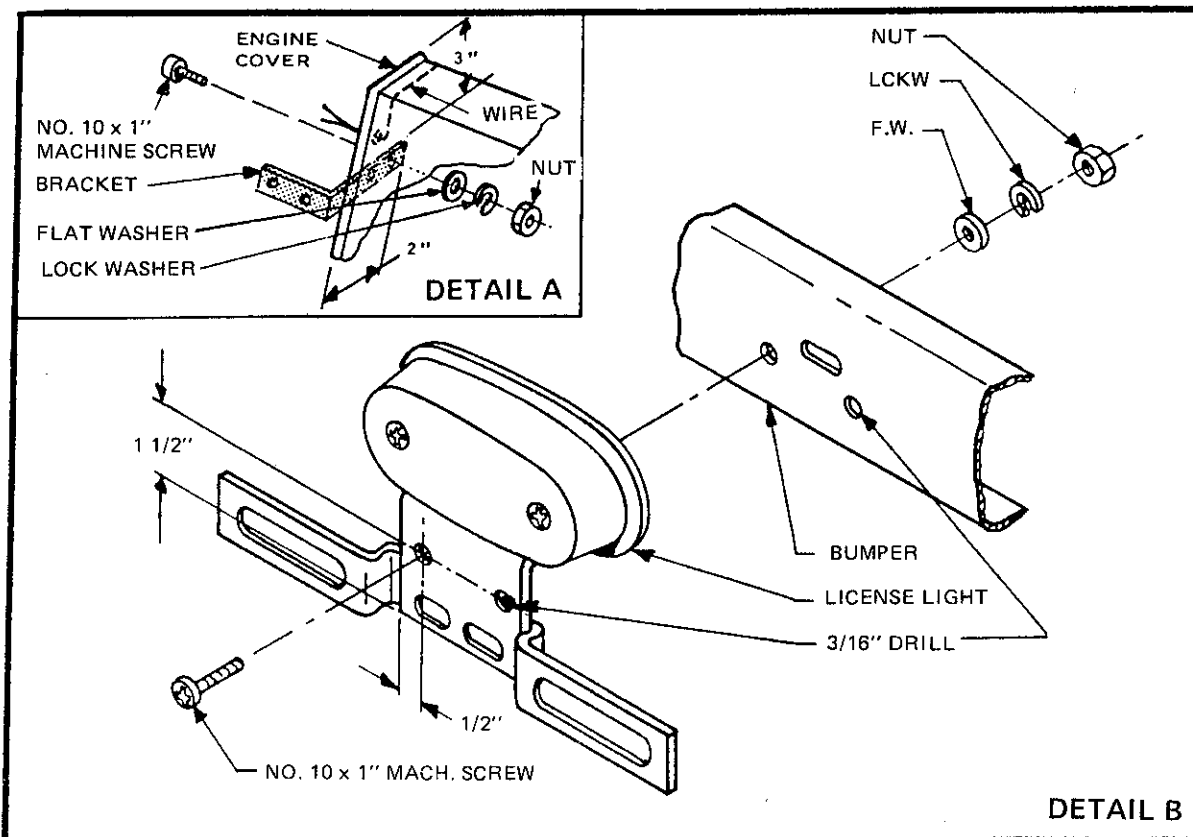

Figure 66
- ☐ The license light can be mounted in one of two places. On the engine cover with the bracket supplied or on the bumper. For engine cover mounting, bolt license light to bracket using No. 10 x 1" machine screws with flat washers, lock washer and nut. Line bracket up on left side of engine cover. Measure 3" down from top and 2 1/2" in from the edge. Keep license light parallel to rear of engine cover. Mark and drill 2 holes, 3/16", through holes in bracket. Secure to cover using No. 10 x 1" machine screws with flat washer, lock washer and nut. Run wires (hot and ground) up body and down into cover. (Figure 66)
- ☐ For bumper mounting, drill two 3/16" holes in license light as indicated. (Figure 66)